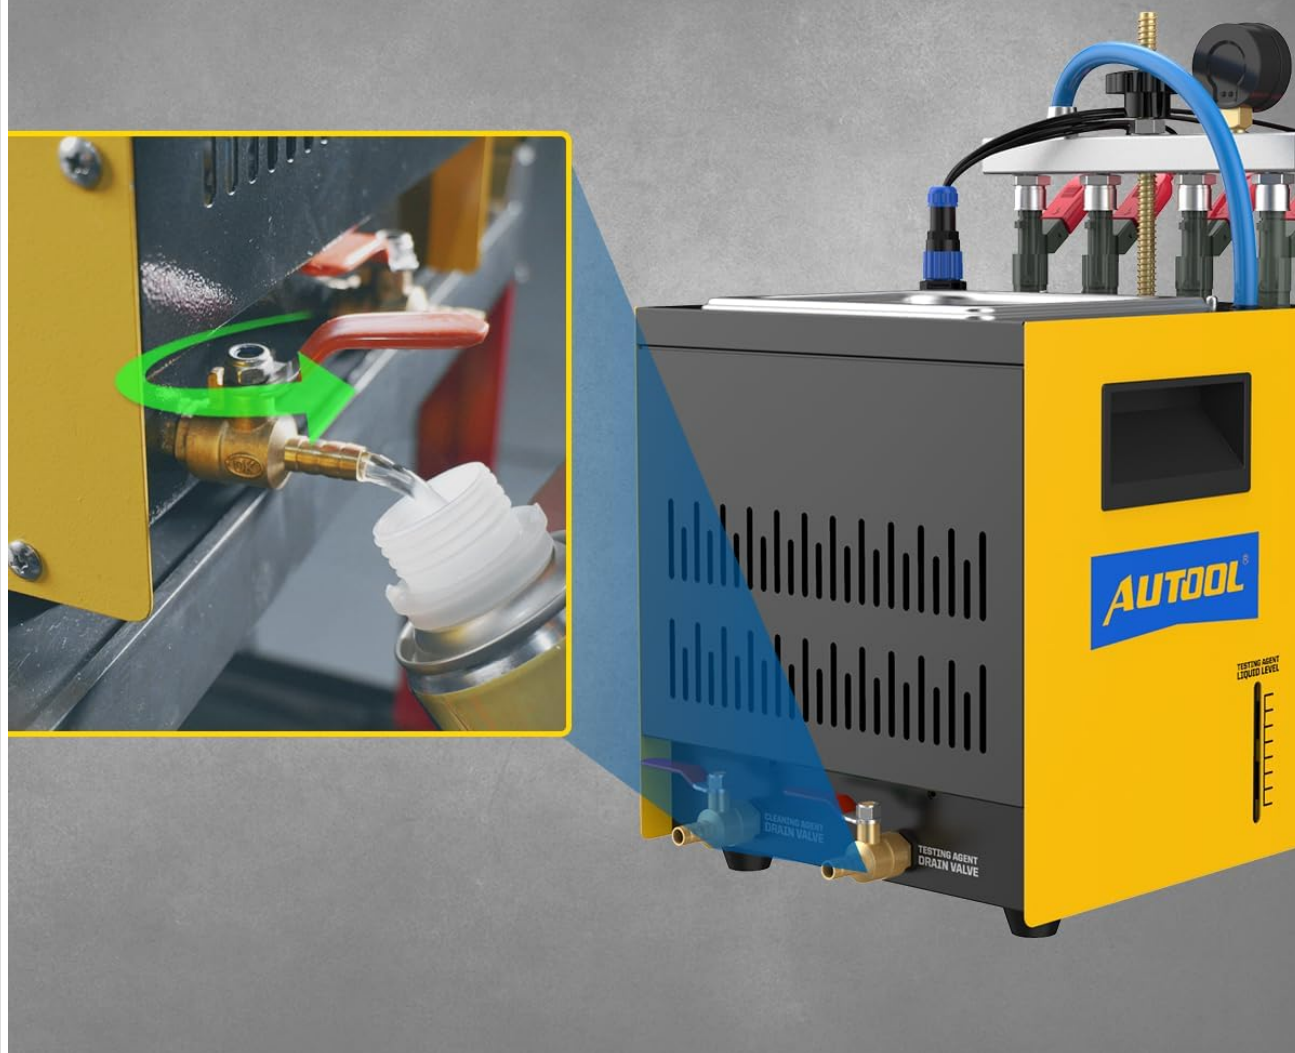

Figure 4: Drain Valve for Fluid Management.
- **Fluid Management:** After each use, especially after cleaning, drain the used cleaning and test fluids using the drain valves (refer to Figure 4). Dispose of fluids according to local environmental regulations.